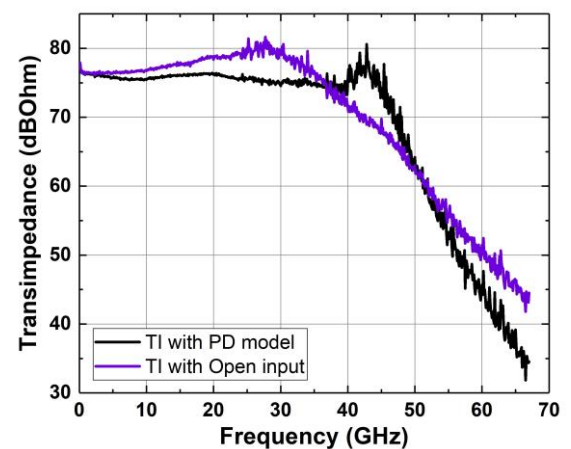

Figure 5. Measured differential transimpedance gain taking into effect the load characteristics.
* The bandwidth is stated for a 50 Ω load. The bandwidth is higher with a photo-diode, see Fig. 5.